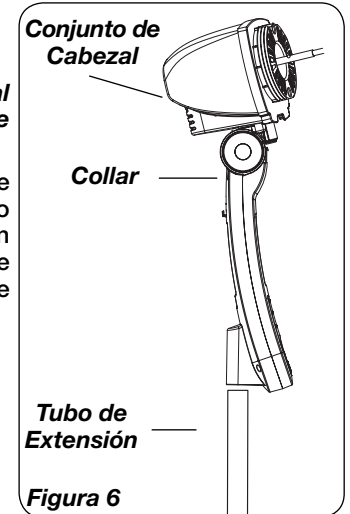

Figure 6
- Place **Head Assembly** with **Collar** onto **Extension Pipe**. (*Figure 6*)